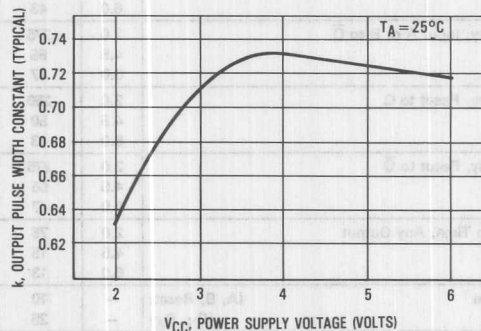

Figure 1. Typical Output Pulse Width Constant, k,
*For output pulse widths greater than 100 μs, typically $\tau = kR_X C_X$, where the value of k may be found in Figure 1.